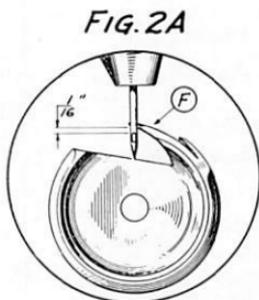
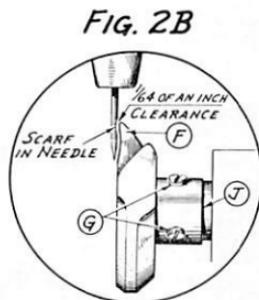
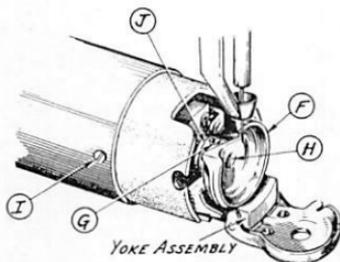

FIG. 2A
FIG. 2B
FIG. 3
At this time the point of Hook (F) Fig 2 should be at the Vertical Center Line of the Needle and $\frac{1}{16}$ of an inch above the Needle Eye as shown in enlarged view Fig. 2A and at the center of the scarf in the Needle as shown below in Fig. 2B.
Loosen 3 Screws (G) Fig 3 and turn Hook (F) to Left or Right on Shaft (H) the desired amount. Now check for $\frac{1}{64}$ of an inch clearance between scarf in Needle and point of Hook (F) as shown in Fig. 2B.
To adjust lateral position of Hook and Yoke, loosen Set Screw (I) Fig. 3 and move entire Yoke Assembly in or out on Shaft (H) making certain that hub of Hook shoulders firmly against the Yoke at point (J) Figs. 2B and 3. Tighten 3 Screws (G) and Set Screw (I) Fig. 3 securely making certain that you do not bind Hook and Shaft by too much pressure at (J).